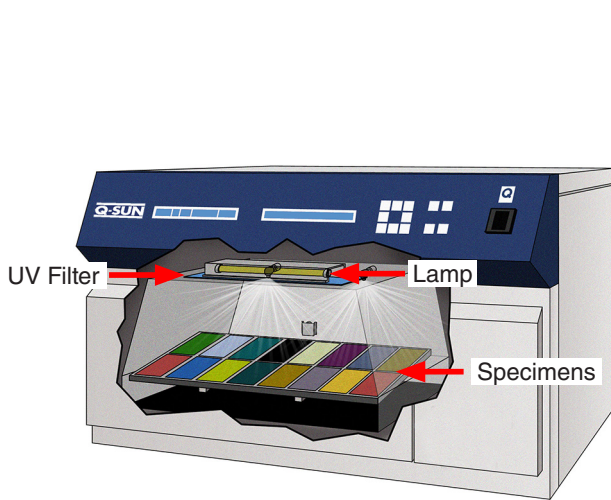

Figure 7.1b: Xe-1 Lamp and specimen geometry.
- See Figure 7.1b for lamp location relative to the UV filter (see Section 7.4) and specimens mounted on the specimen tray (see Section 10.3).